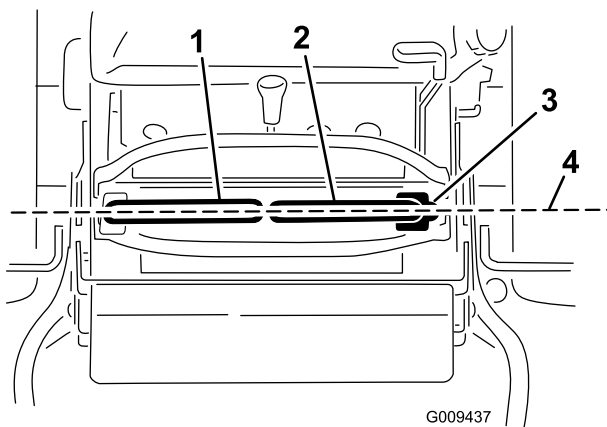

Figure 69
Important: Ensure the tracking of the mower is correct after adjusting the motion control levers. Adjusting the tracking and aligning the motion control levers front to back is the same procedure (Figure 69).
1. After the horizontal alignment is finished, check the front to back alignment (Figure 69).